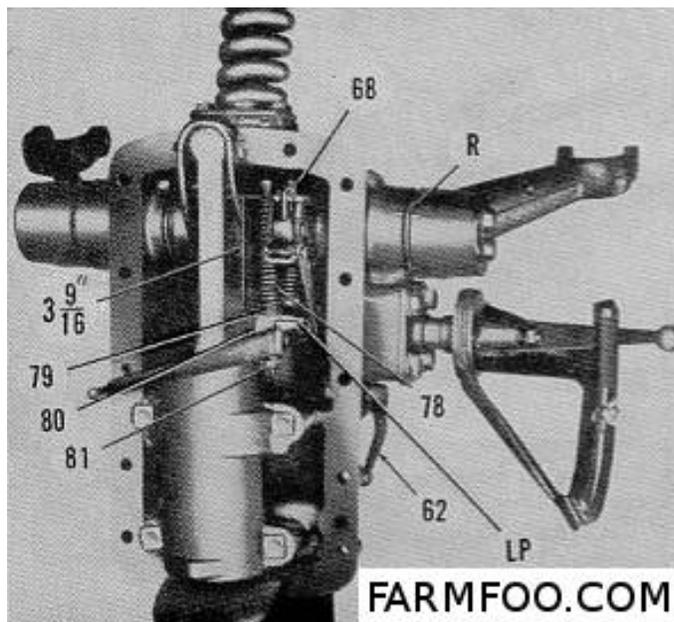

Fig. F081 - On model 8N, adjust the constant draft control spring to 3 - 9/16 inches length by means of adjusting nut (81).
103. **CONSTANT DRAFT SPRING.** To adjust constant draft spring mount the lift cover assembly in a vise with control spring up as shown in Fig. F081. Disengage the position control lever (62) by moving it to the forward down position. Measure the length of the constant draft control spring (78) which should be 3-9/16 plus or minus 1/64 inch. If spring is not within these limits adjust to 3-9/16 by means of adjusting nut (81).